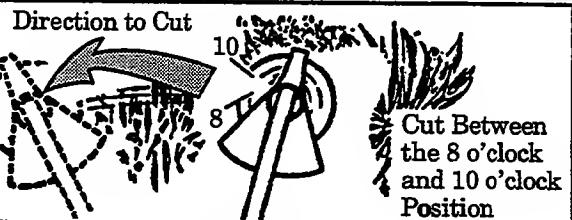

Figure 22
2. Use the 8 o'clock to 10 o'clock position for cutting. Figure 22.